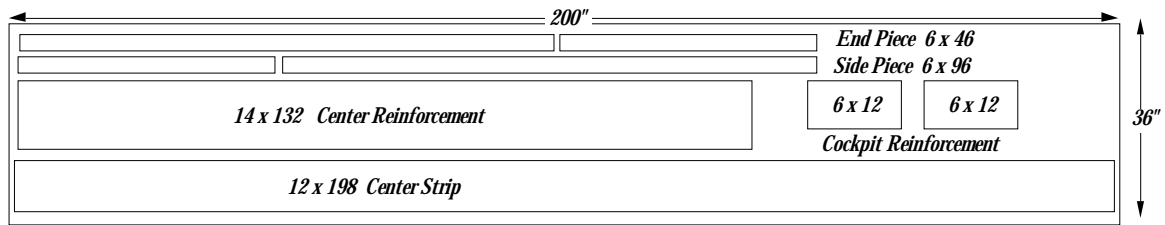

Figure 10
If time permits, cut out the canvas in accordance with Figure 10. Remember that the canvas will cut better if you put the first coat of contact cement on the canvas.
4. Lay out a row of newspapers about 16 feet long for gluing the canvas. Lay out the two end strips, the two side strips and the center strip of the canvas, in accordance with the dimension shown. (see figure 10)